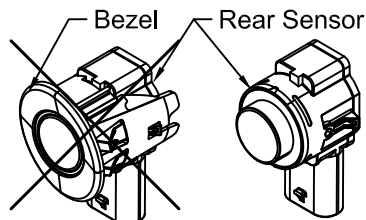

Figure 3: Rear sensor - no bezel.
- 3. Remove** and **Save** the rear sensors and wire harness from the bumper. Do not reuse the factory mounting bezel (Figure 3), doing so may not position the sensors correctly.